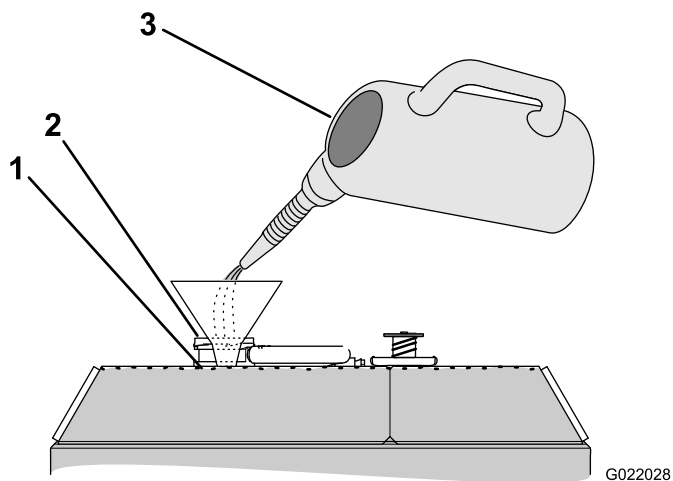

Figure 141
3. Fill the radiator with coolant until the fluid level is up to the bottom of the filler neck (Figure 141).